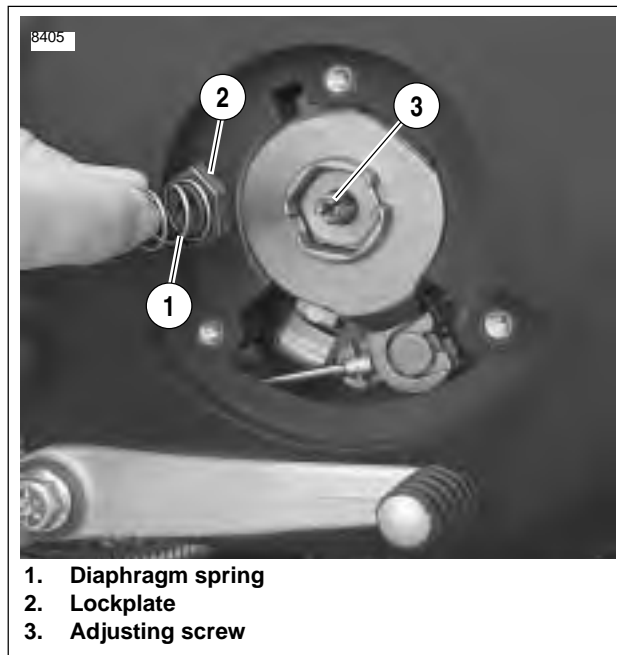

Figure 1-21. Clutch Adjustment
4. See Figure 1-21. Remove spring (1) and lockplate (2). Using a flat tip screwdriver, turn adjusting screw (3) counterclockwise until it lightly bottoms.